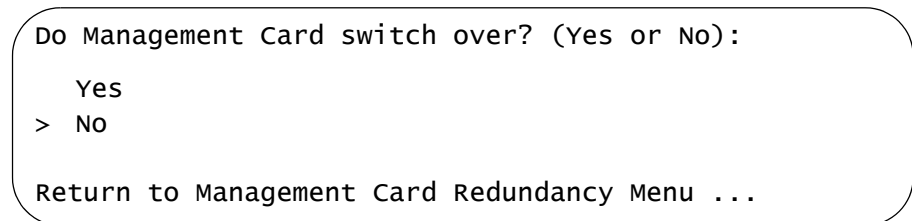

Figure 49. Confirmation Prompt for Switch Over Management Cards
1. From the Main Menu, select **Management Card Redundancy** to display the Management Card Redundancy Menu, shown in Figure 49.